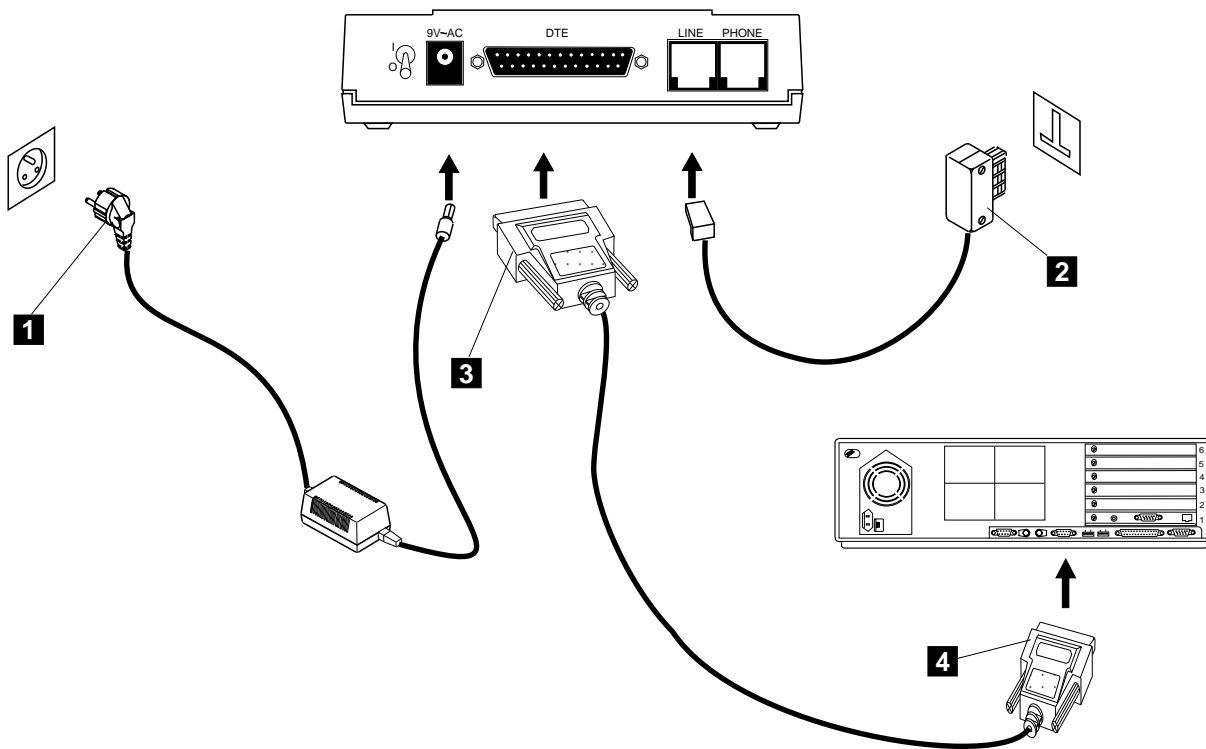

Figure 1-97. Connecting the Hayes
2. Refer to Figure 1-97 and connect the cables as follows: